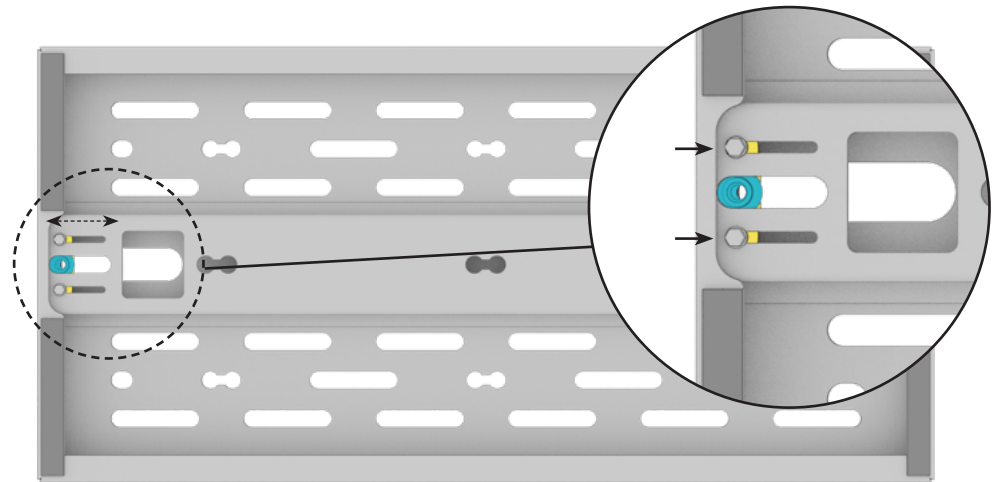

FIG 43
**7.1 Fit and Adjust Bed Panels:** Loosen the **1/4-20 x 0.75 Flanged Hex Head Screws** in the locations shown in **FIG 43** and adjust the **Bed Panel Mounting Bushings** until it centered between the two **Wheel Well Cabinets**. Tighten up the screws once you are satisfied with the fitment.